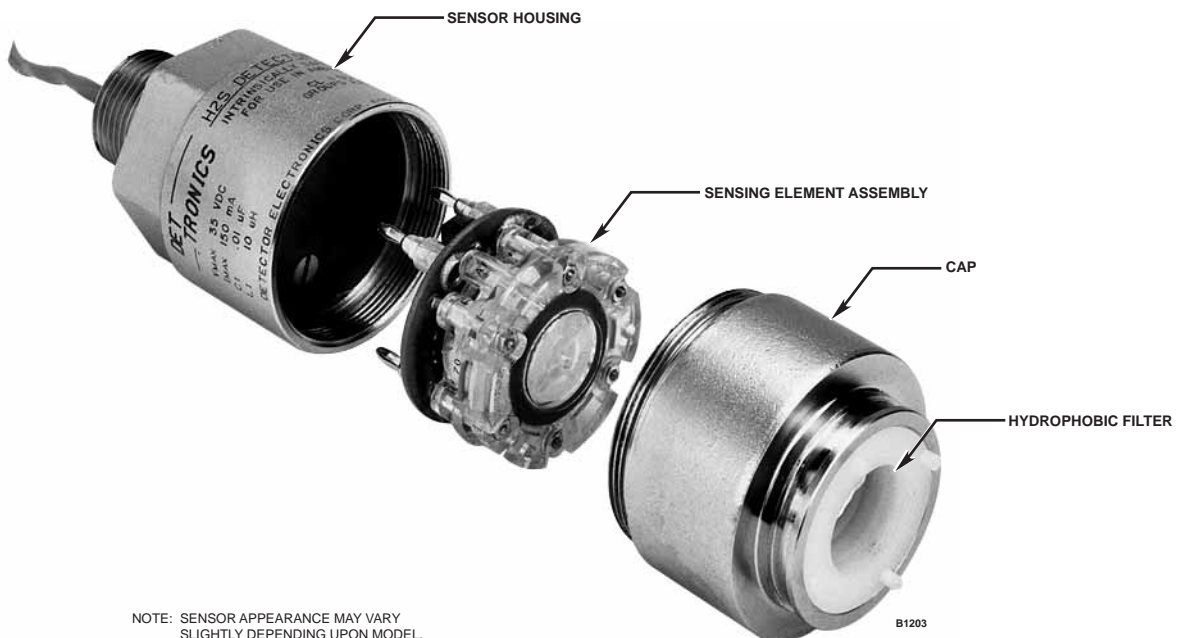

Figure 22—Electrochemical Sensor Parts Identification
2. Remove the cap from the sensor base. See Figure 22. (There is no need to remove the sensor housing from the junction box for this operation.)